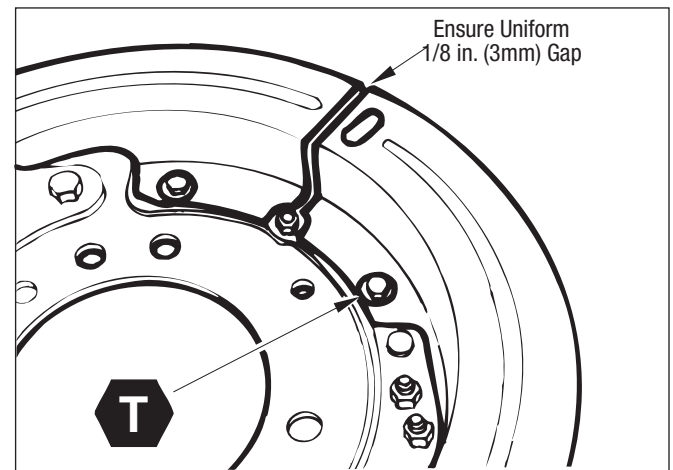

Figure 47 – Dust Shield Spacing
3. Reposition the dust shield, as required, to allow a uniform space of 1/8-in. (3.2 mm) all along the parallel mating edges. Refer to Figure 47.